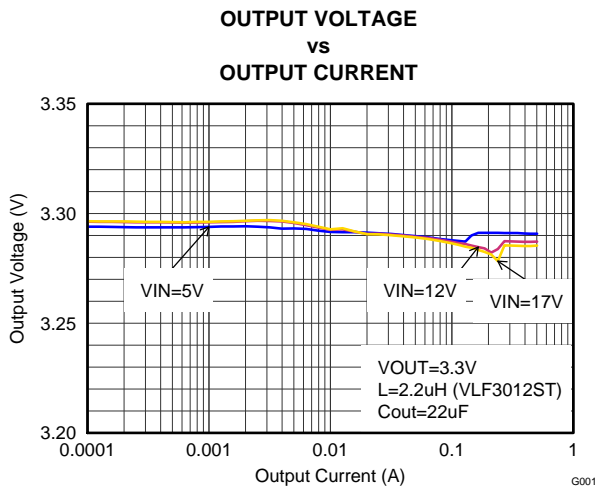
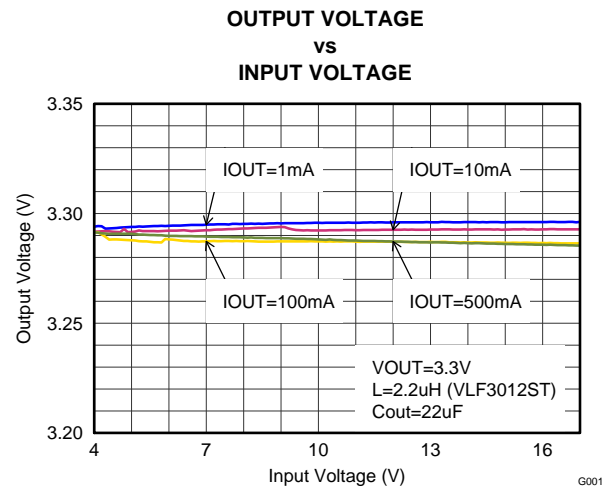

Figure 13. Output Voltage Accuracy (Load Regulation)
Figure 14. Output Voltage Accuracy (Line Regulation)
- (1) The device is still functional down to Under Voltage Lockout (see parameter V_{UVLO}).
- (2) Current into V_{IN} pin.
- (3) This is the static current limit. It can be temporarily higher in applications due to internal propagation delay (see Current Limit And Short Circuit Protection).
- (4) This is the voltage regulated at the FB pin.
- (5) This is the accuracy provided by the device itself (line and load regulation effects are not included). For fixed voltage versions, the (internal) resistive feedback divider is included.
- (6) Line and load regulation are depending on external component selection and layout (see Figure 13 and Figure 14).